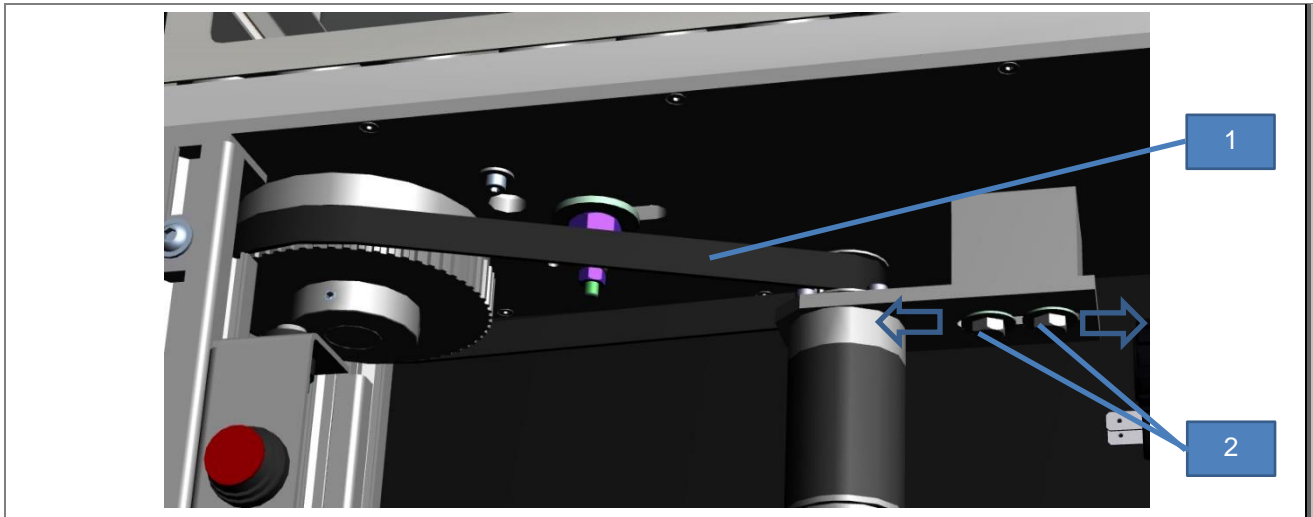

Fig. 10: Adjusting the chain motor belt
1. Release the two screws **(2)** (see Fig. 10: Adjusting the chain motor belt).
2. Press the motor support forwards or backwards to change the tension on the chain motor belt **(1)** (see Fig. 10: Adjusting the chain motor belt).
3. Hold the motor support in position and tighten the two screws **(2)** again (see Fig. 10: Adjusting the chain motor belt).
4. Check the tension on the chain motor belt **(1)** again (see Fig. 10: Adjusting the chain motor belt).